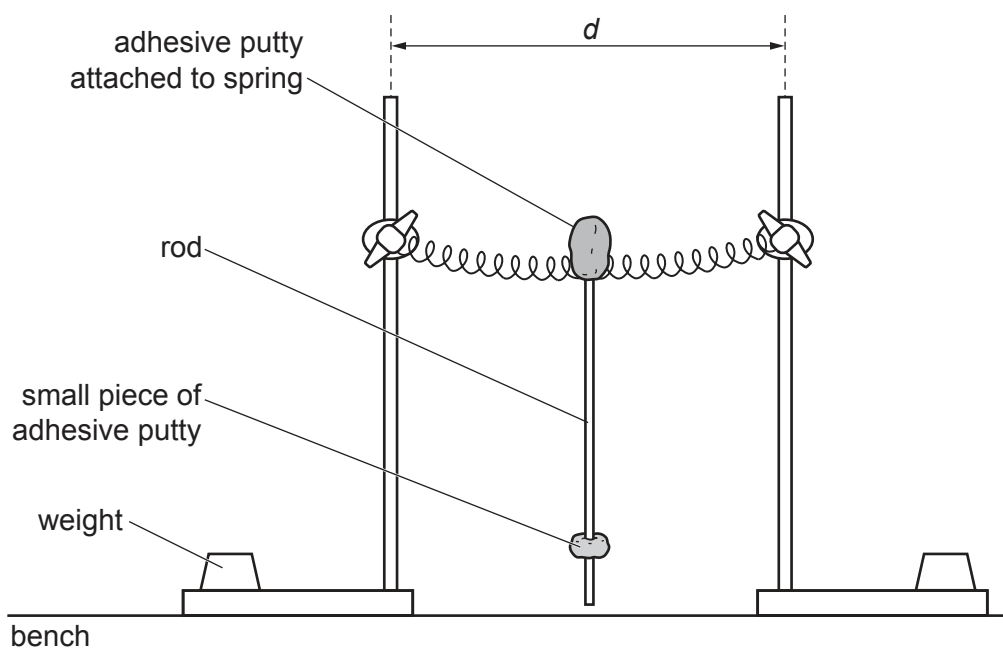

Fig. 4.1
1. The spring should be extended between the two bosses 26 cm apart and the larger mass of adhesive putty should then be moulded firmly around and into the central coils of the spring and shaped so that it is approximately cylindrical 2.5 cm wide and 5 cm in diameter, as shown in Fig. 4.1. The ends of the spring should be securely taped to the bosses to prevent it springing loose during the experiment.
2. The stands should be placed a distance $d = 26$ cm apart, as shown in Fig. 4.1. To prevent the stands toppling, heavy weights should be placed at the ends of their bases and the bosses should be attached at a minimum height that is just sufficient to allow the rod to rotate freely in a forwards and backwards motion without hitting the bench.
3. A rod of length 40 cm should be pushed all the way through the adhesive putty attached to the spring. A 6 mm diameter wooden rod is suitable. The small piece of adhesive putty should be pressed into place around the rod to make a disc of approximate diameter 3 cm near to the bottom end of the rod, as shown in Fig. 4.1. It must be possible for candidates to adjust the position of the adhesive putty on the rod and for the adhesive putty to adhere to the rod without slipping.
The supervisor must ensure that the apparatus is in the configuration shown in Fig. 4.1, with the small piece of adhesive putty near the bottom of the rod.